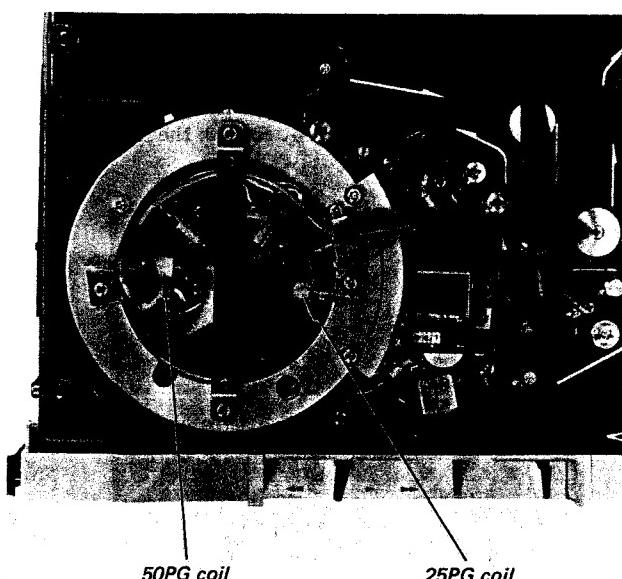
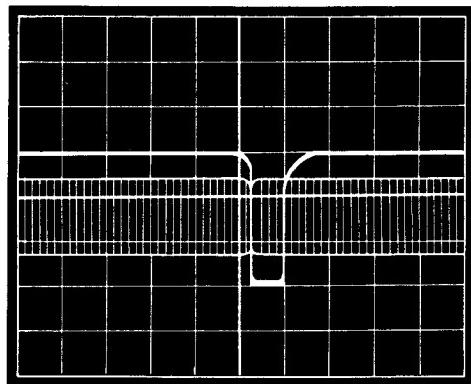

Fig. 4-2.
Fig. 4-3.
- Bend the tip of the 50 PG coil with pliers and adjust the coil position so that maximum rf output is obtained in the overlap period. See Fig. 4-2 and Fig. 4-3.